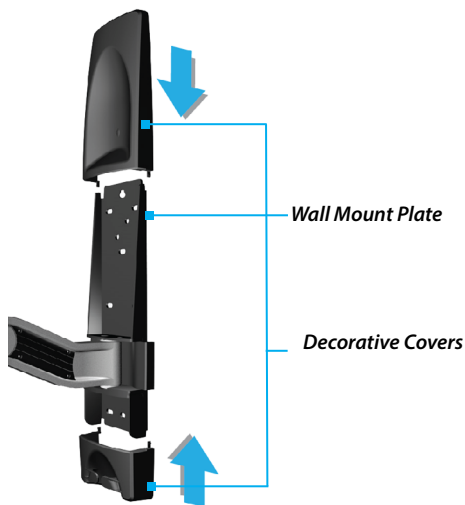

Figure 6
1. Reattach the upper and lower **Decorative Covers** by sliding each **Decorative Cover** along the **Mounting Surface**, towards the **TV Wall-Mount Assembly**, until you hear or feel the **Tabs** of each **Decorative Cover** snap into place. (Figure 6)